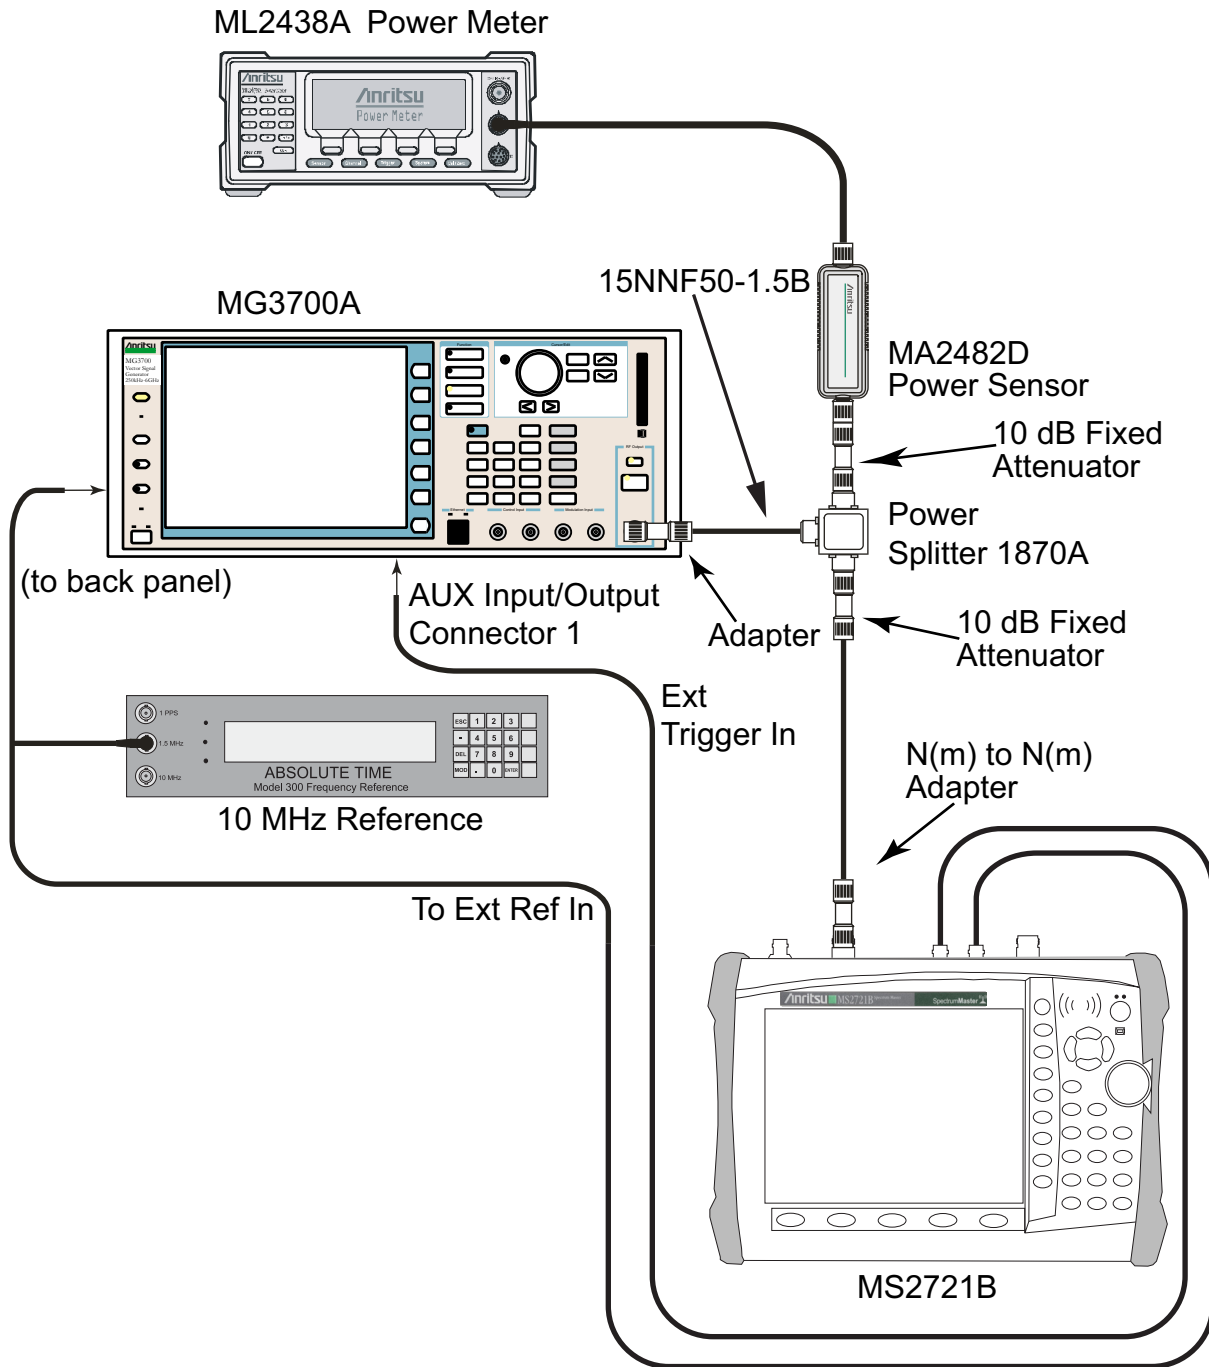

Figure 3-18. TD-SCDMA Signal Analyzer Option Verification
2. Connect the equipment as shown in Figure 3-18.